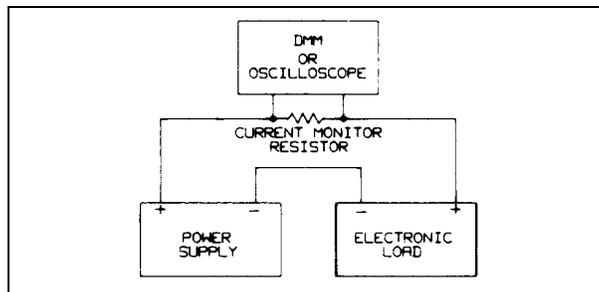

Figure 2-1. Test Setup A
Table 2-1 lists the test equipment required to perform the tests in this chapter. Test setups for the tests are shown in Figures 2-1 through 2-3. Make sure the sense switch on the rear of the module is set to the LCL position since local sensing is used in all of the test setups. Use adequate wire gauge when making connections (see Chapter 3 in the Operating Manual).
- a. Connect the Electronic Load, power supply (Agilent 6032A or equivalent), DMM, and current monitor resistor (0.100 ohm) as shown in Figure 2-1.
- a. Connect the Electronic Load, power supply (Agilent 6035A or equivalent), and current monitor resistor (0.100 ohm) as shown in Figure 2-1. Use the DMM to measure the voltage across the monitor resistor and across the module's input terminals.
- Use the test setup of Figure 2-1 except connect an oscilloscope across the 0.100 current monitor resistor in place of the DMM. Set power supply for 10V and 10A.